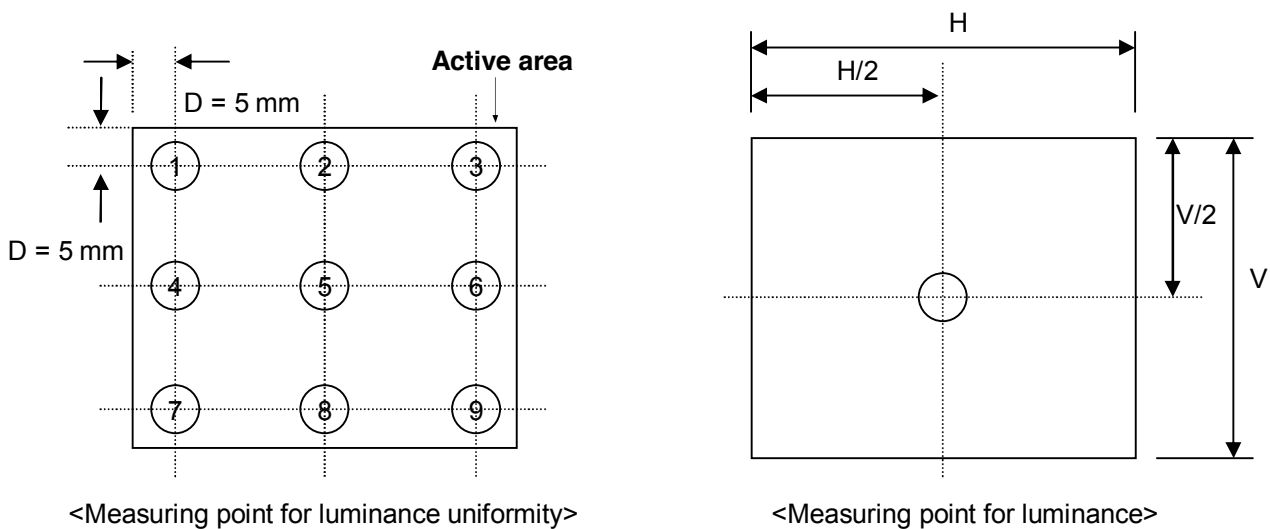

FIG. 3. The definition of Response Time
| | Response Time | Tr+Tf | $\theta = 0^\circ$ | - | 30 | 45 | ms | FIG.3 | |
3. Response time is the time required for the display to transition from white to black (Rising Time, Tr) and from black to white (Falling Time, Tf). For additional information see FIG 3.